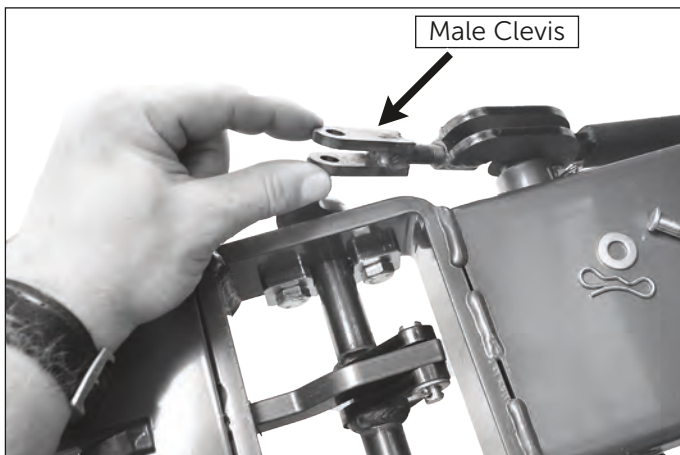

Figure 3.1
1. Adjust the H19 hitch lock clevis to properly secure the implement. To adjust the tension on the tongue latch, remove the bowtie clip and the clevis pin as shown in figure 3.1, and twist the male clevis clockwise to tighten, or counter-clockwise to loosen, as needed.